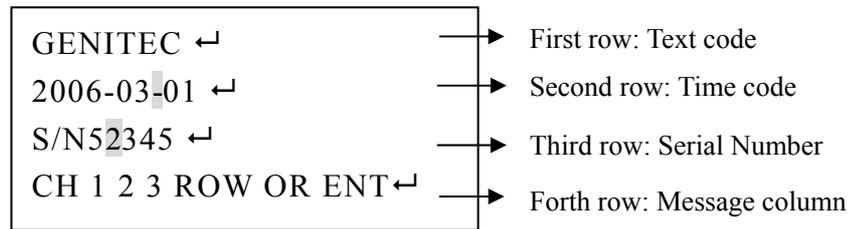

Figure 31
9. Press the number buttons to modify the text (Refer to figure 25) Press the button  , the position of CAUSER blinking, will change to 5, CAUSER will move one space to the right automatically. (Refer to figure 31)